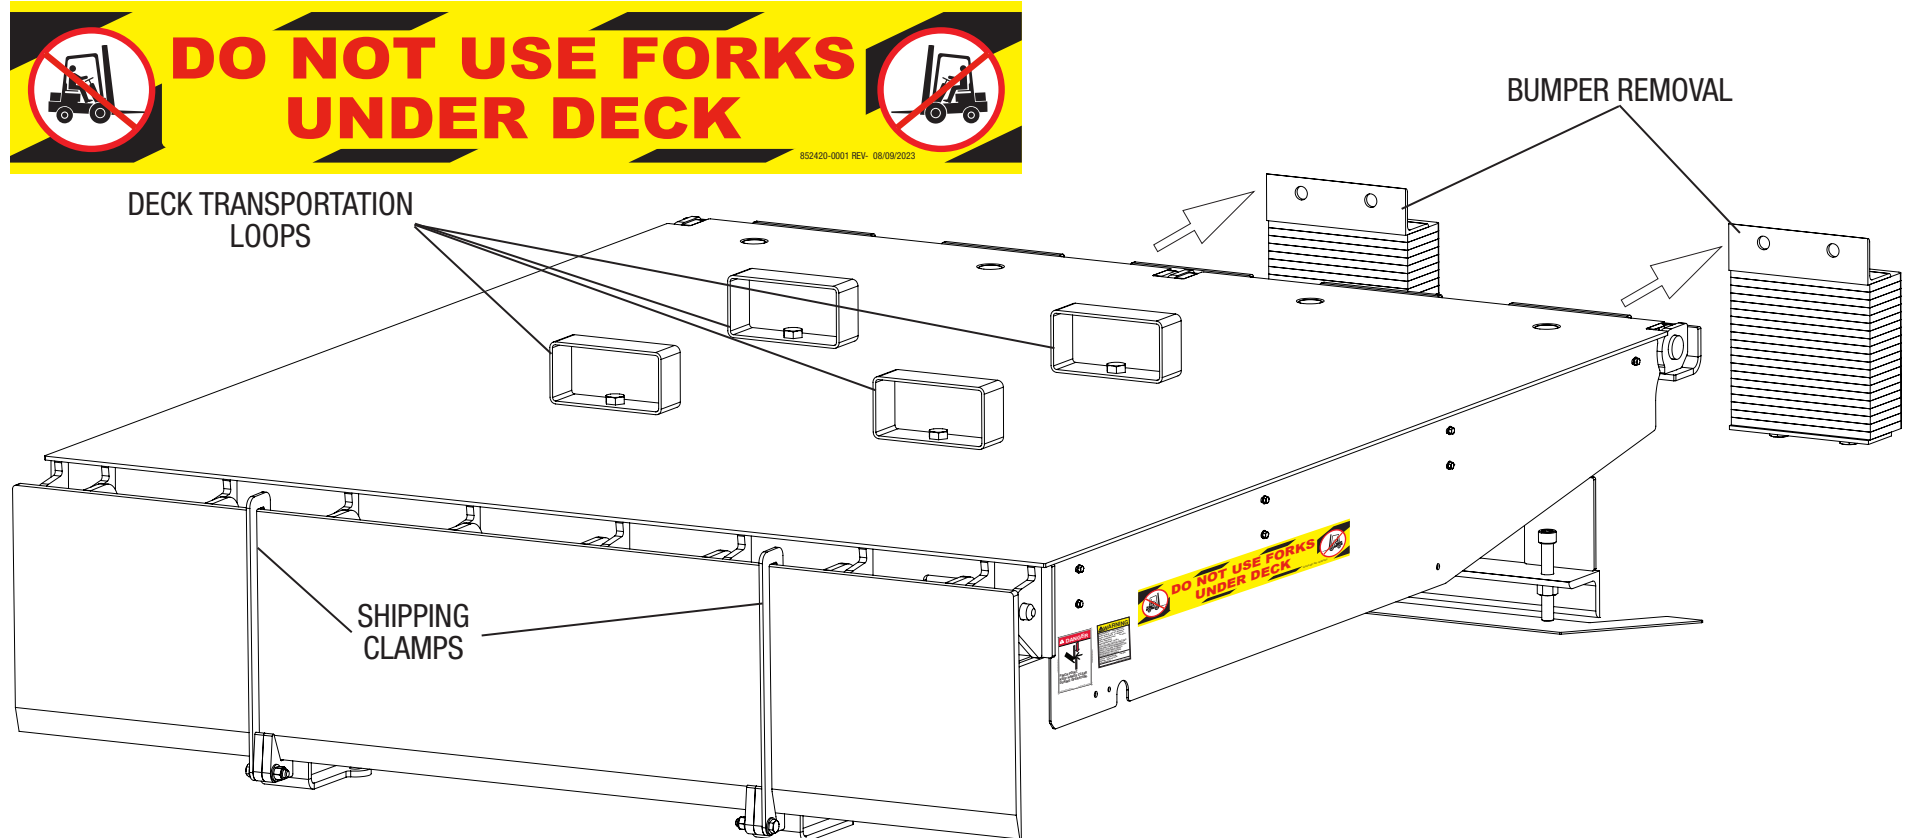

Figure 9
2. Ensure the four deck transportation loops are installed and secure before lifting the leveler from the truck. See **Figure 9**.
3. Unbolt the bumpers from the rear of the leveler, as shown in **Figure 9**.